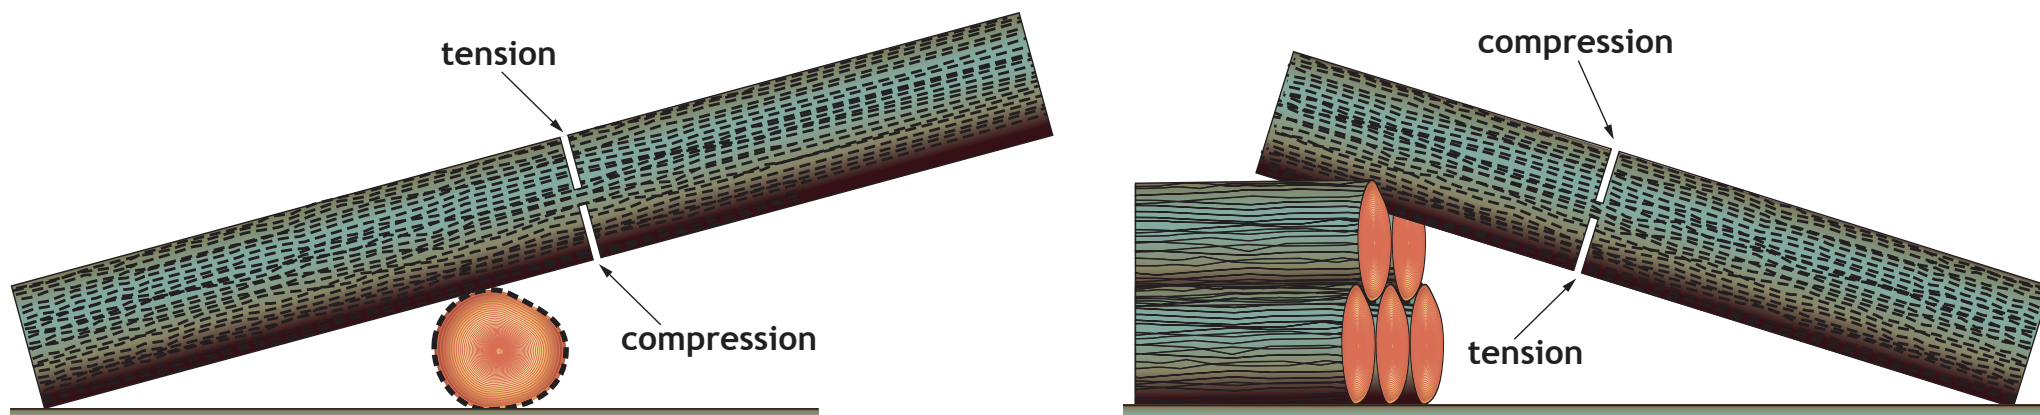

Figure 1: Identification of tension and compression wood
- ❑ 9 Reduce excessive tension by first making a cut on the compression side of the log (see *Figure 1*).